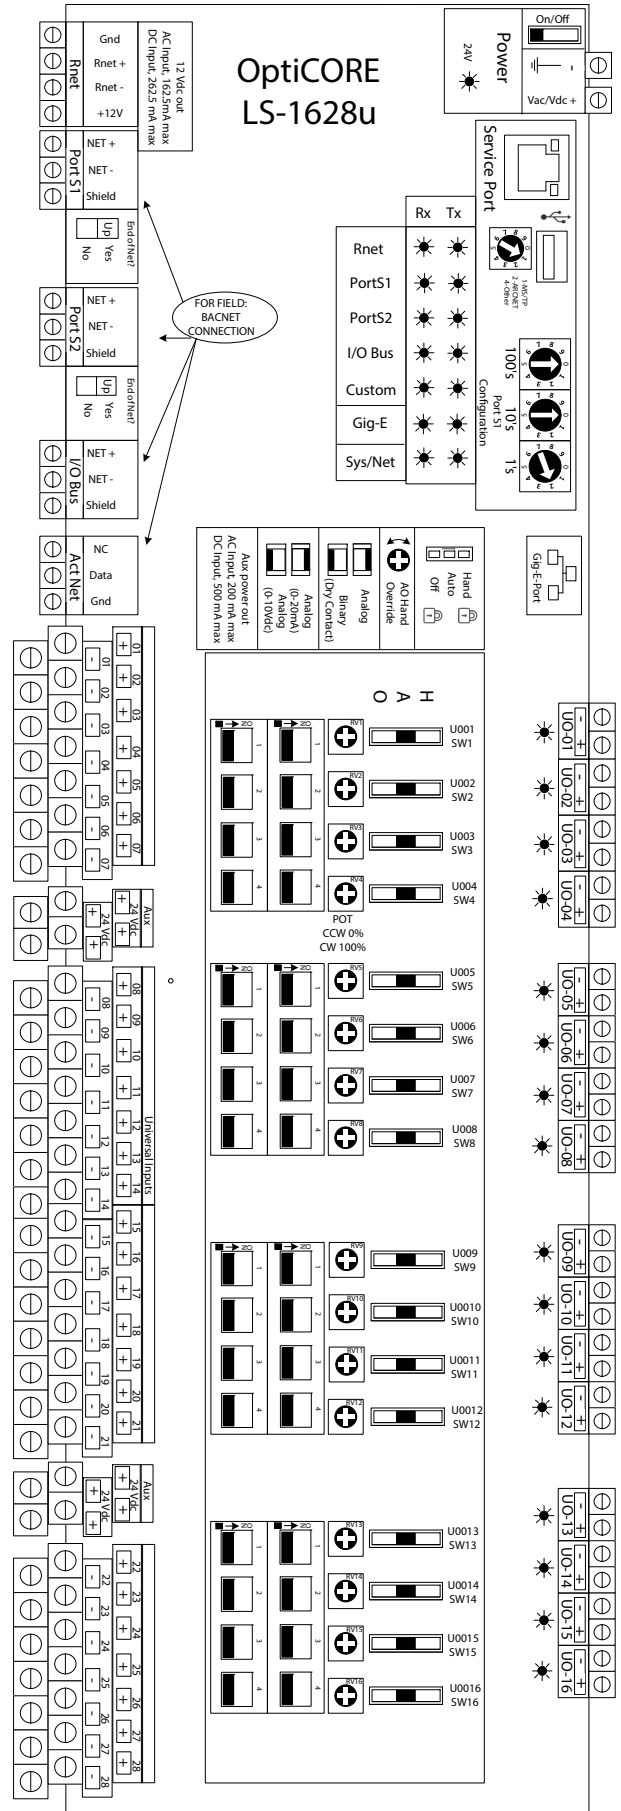

Fig. 3 — Control and Expansion Module
The OptiCORE controller has sixteen universal outputs (UO) and twenty-eight universal inputs (UI). All of the input and output (I/O) settings are pre-configured from the factory to reflect the factory unit configuration. A predetermined amount of the controller’s I/O are field configurable to the factory configurations. See Fig. 3 for typical controller layout.
See Fig. 3 and 4 for typical controller configuration.